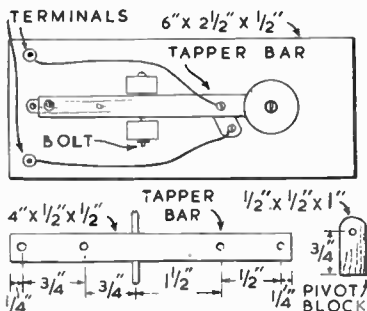

Fig. 2 - Top view of the key, and details of the bar and pivot
The purpose of the flare-out so to speak, at just below point (X) on Fig. 2 is so that the roof pieces can be supported along their complete length, otherwise the ends would project. This would look
The key bar is 4 ins. long and ½ in. square, and is drilled as shown in Fig. 2. As with the two small pivot blocks, the hole for the pivot, which may be a long bolt, should not be larger than is necessary. Sideways wobble will then be avoided.